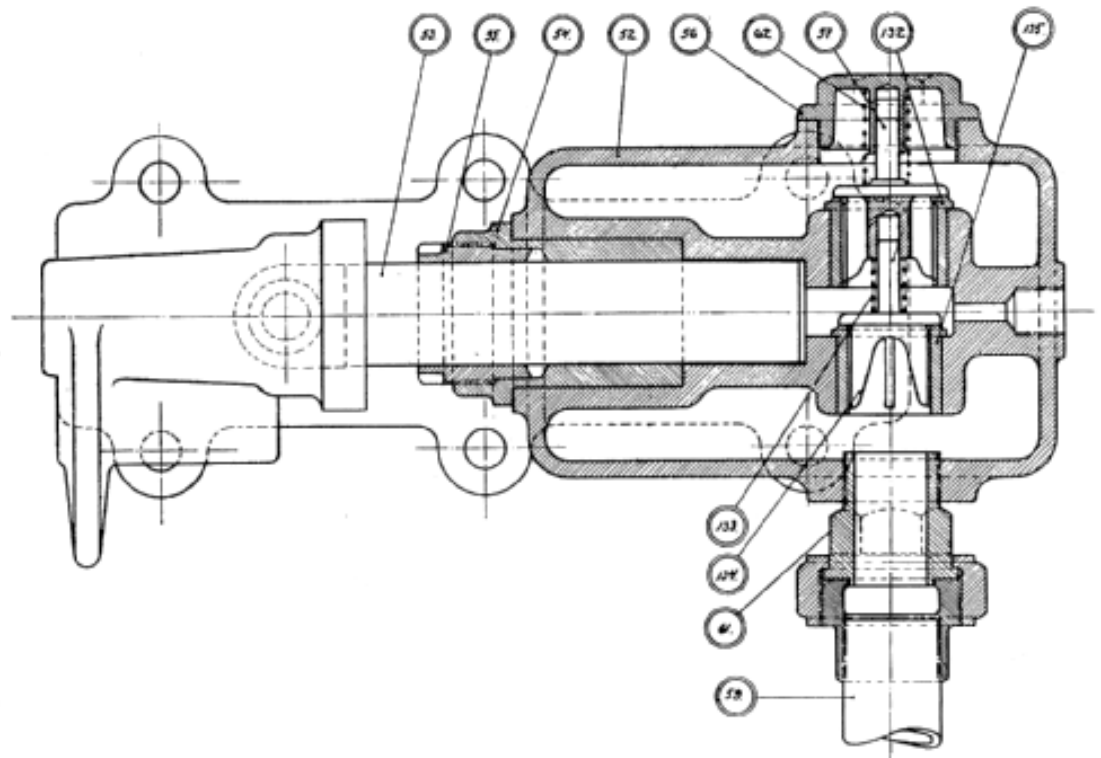

Fig. 15.
*Important.* After the engine has been running for a couple of minutes, the blow lamp is extinguished and the lids (6 and 131) of the cap (5) are closed. See that the cooling water circulation works properly.
The temperature at which the water flows off may be abt. 140° Fah. (60° C.). If the water pump (fig. 15) should not draw water at once, open the screw cap (56) and fill the suction pipe (59) as well as the pump with water, whereupon the lid is again screwed down tight. This is only done when the cooling water is drawn from a low level lake or tank. If a cooling vessel or a cooling plant is employed, this can generally be arranged on the same level as the cooling water pump, and the pump will then easily force the water through the engine.